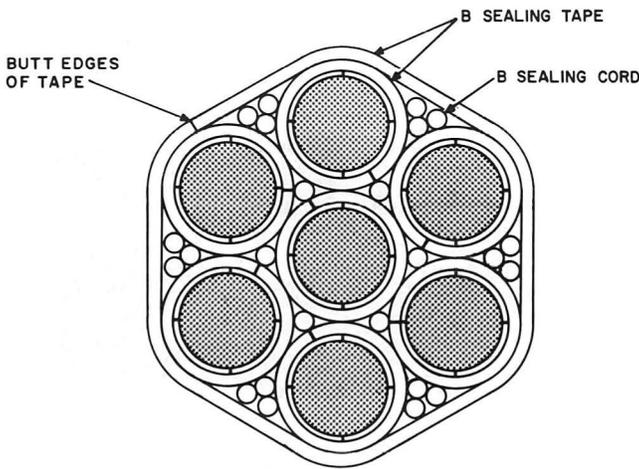

Fig. 14—Seven-Stub Cable Arrangement for 21D1 Splice Case
6.07 The "D" range of splice cases (except the 21D4 Splice Case) is intended for use with feeder cables having a diameter between 2.2 and 2.9 inches. These cases will accommodate as many as 7 connector stub cables in each cable opening. These stub cables should be arranged as shown in Fig. 14. One complete layer of B Sealing Tape should be wrapped around each stub cable. The interstices should be filled with 1-1/2 inch lengths of B Sealing Cord. One layer of B Sealing Tape should be wrapped around the cable group and then covered and secured as in 6.03 and 6.04. Diameter of wrapped group should be dressed down to approximately 3-3/4 inches measured over the B Sealing Tape collar.